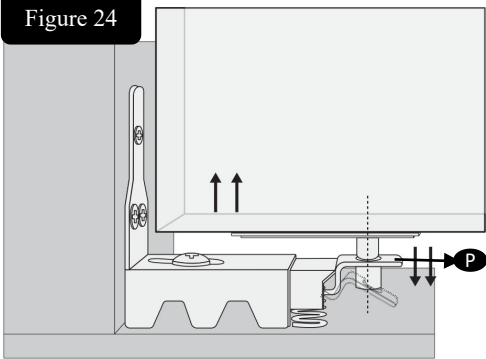

Figure 24
- **Step 3:** Lift the door and insert the protrusion on the bottom pivot into the lower jamb pivot with "P" being pressed down (Figure 24).